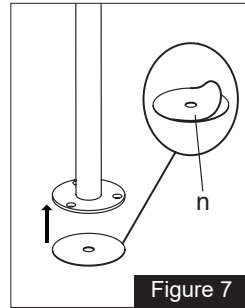

Figure 7
1. Determine mounting location on desktop and mark the center drilling location. Drill a 3/8" (10mm) diameter hole through surface at the marked location. Attach Soft Pad (**n**) to Pole (**a**) See Figure 7.
2. Position Pole on the mounting surface and secure using the Support Plate (**j**), M10 Washer (**k**), Spring Washer (**l**) and M10 Bolt (**i**) (Figure 7). Tighten using the Wrench (**t**), and slide Decorative Cover (**e**) over the top of the Pole. See Figure 8.